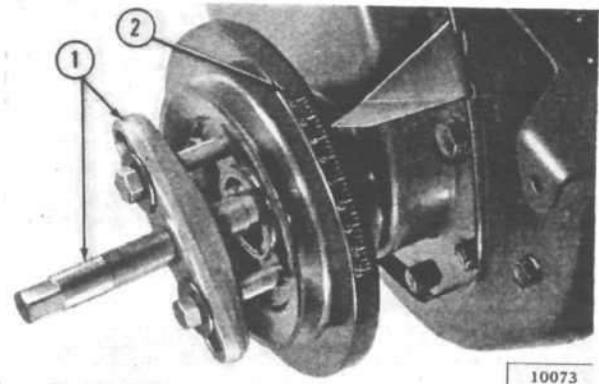

FIG. 25—REMOVING VIBRATION DAMPER
2. Install a vibration damper puller (Fig. 25).